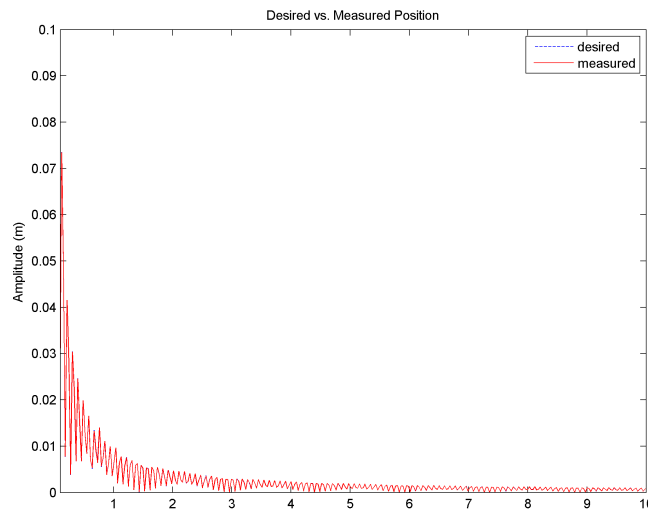

Figure 2.10: FFT of desired and measured position along x-axis after running Northridge earthquake
2. To produce the $|X(\omega)|$ position power spectrum similar to Figure 2.10, run `fft_eval_pos.m`. The desired or commanded position is the blue trace and the measured position (from the encoder) is the red plot line.